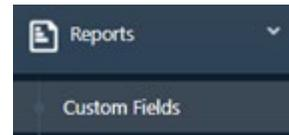

Figure 55: Custom Fields menu item
1. Click the **Reports** icon in the toolbar and click **Custom Fields** (Figure 55).